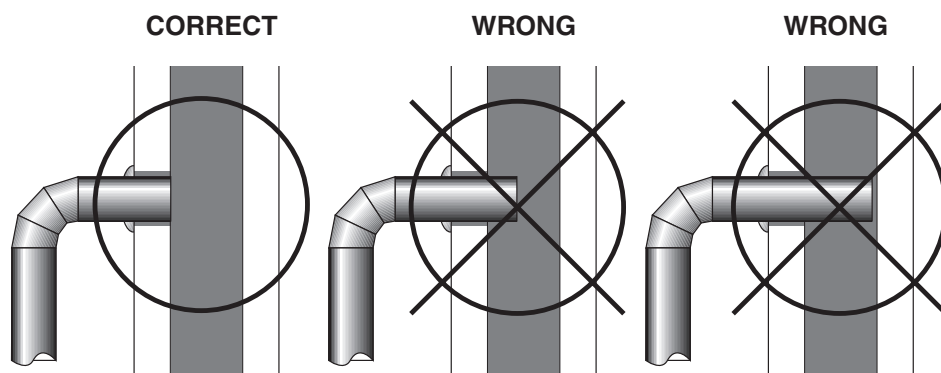

Figure 9 – Stovepipe/Flue Connections
1. The smooth end of the stovepipe fits over the stove flue collar. Secure with three (3) sheet metal screws. The first section of connector pipe must be single walled to properly attach to the stove collar. Install additional pipe and elbow with the crimped end towards the stove. This will allow any condensation in the flue to run back into the firebox.
4. The pipe cannot extend into the chimney flue (figure 9).
6. It is recommended that no more than two (2) 90° bends be used in the stovepipe installation. The use of more than two 90° bends may decrease the amount of draw and possibly cause smoke spillage. Where possible, use only corrugated (non adjustable) elbows. These provide a better seal.
4. Install the stovepipe into the thimble as far as possible without extending past the flue lining (see figures 9 & 10).